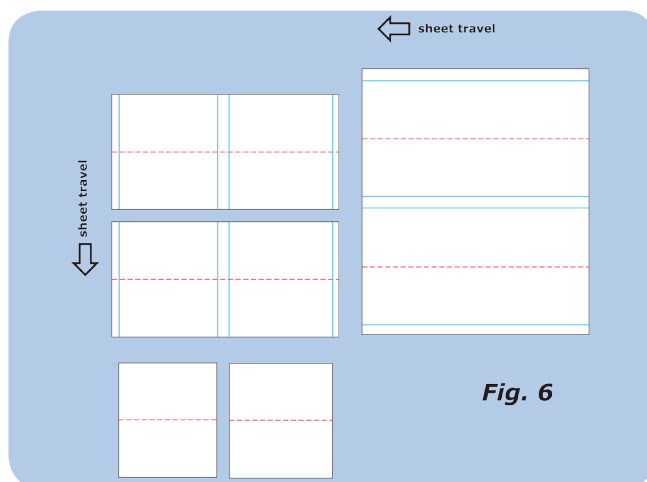

Fig. 6
**Figure 6** demonstrates another inventive use of multiple Technifold tools to get a huge increase in yield. **Here a 4-up 11.5 x 15.5" sheet is taken directly from the press (no trimming,) creased, trimmed and delivered flat.**